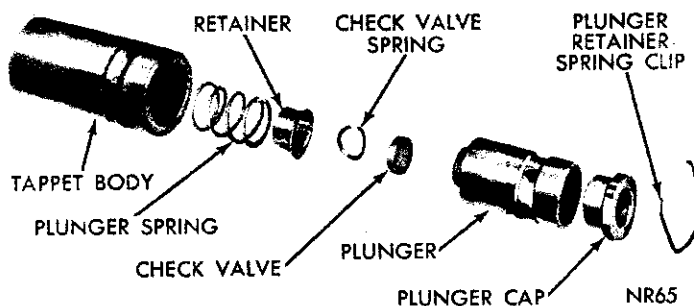

Fig. 17—Hydraulic Tappet Assembly (Disassembled View)
Disassembly (Fig. 17)
- (1) Clean all tappet parts in a solvent that will remove all varnish and carbon.
- (2) Replace tappets that are unfit for further service with new assemblies.
- (3) If plunger shows signs of scoring or wear and valve is pitted, or if valve seat or end of plunger indicates any condition that would prevent valve from seating, install a new tappet assembly.
- (4) Assemble tappets (Fig. 17).